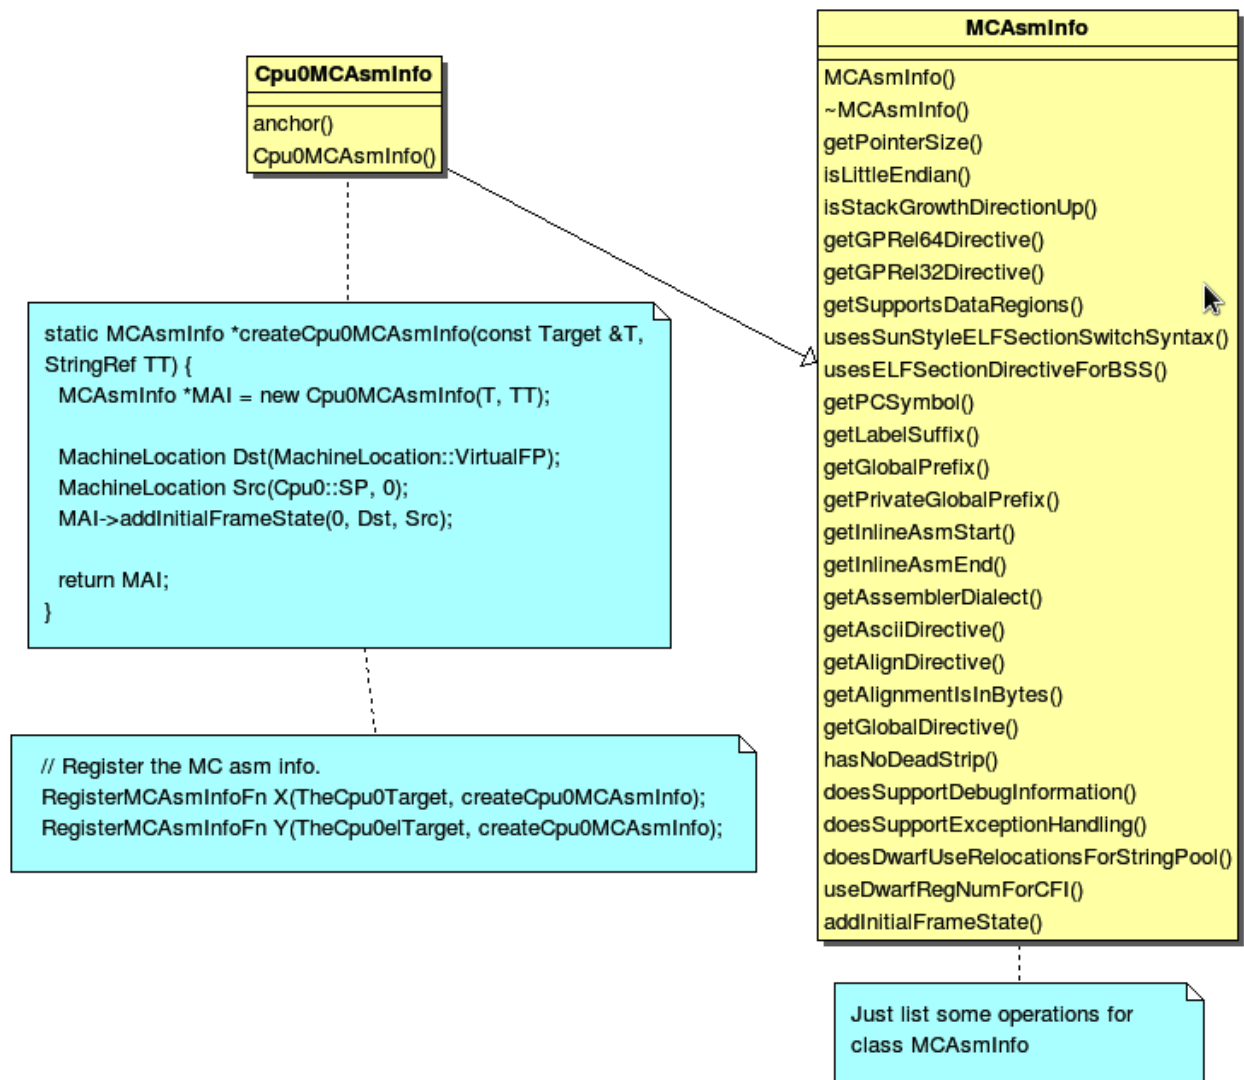
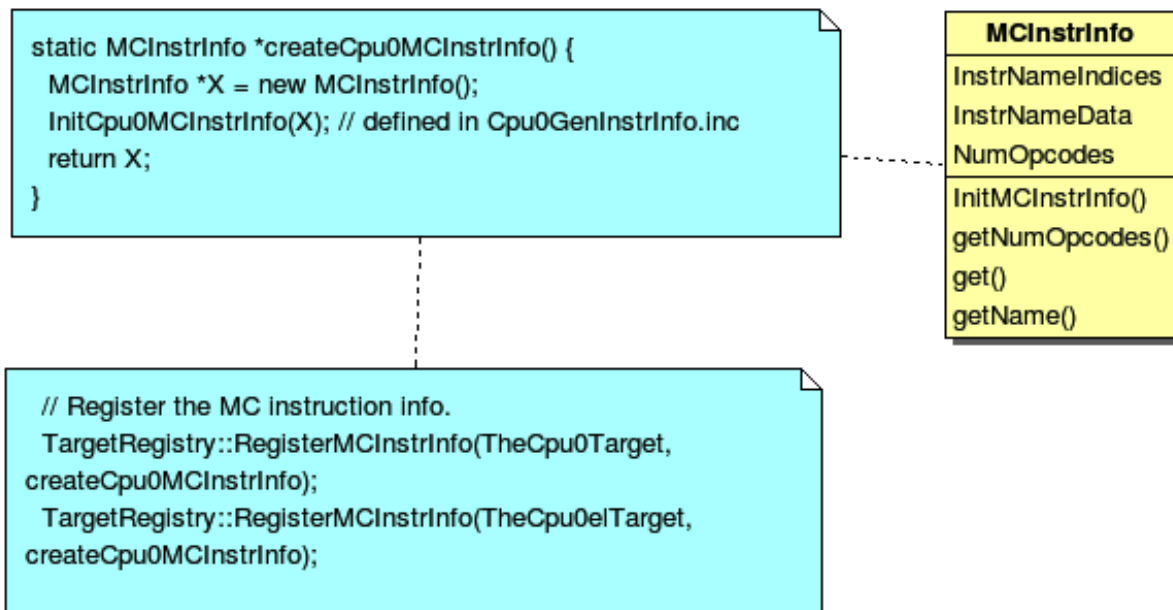
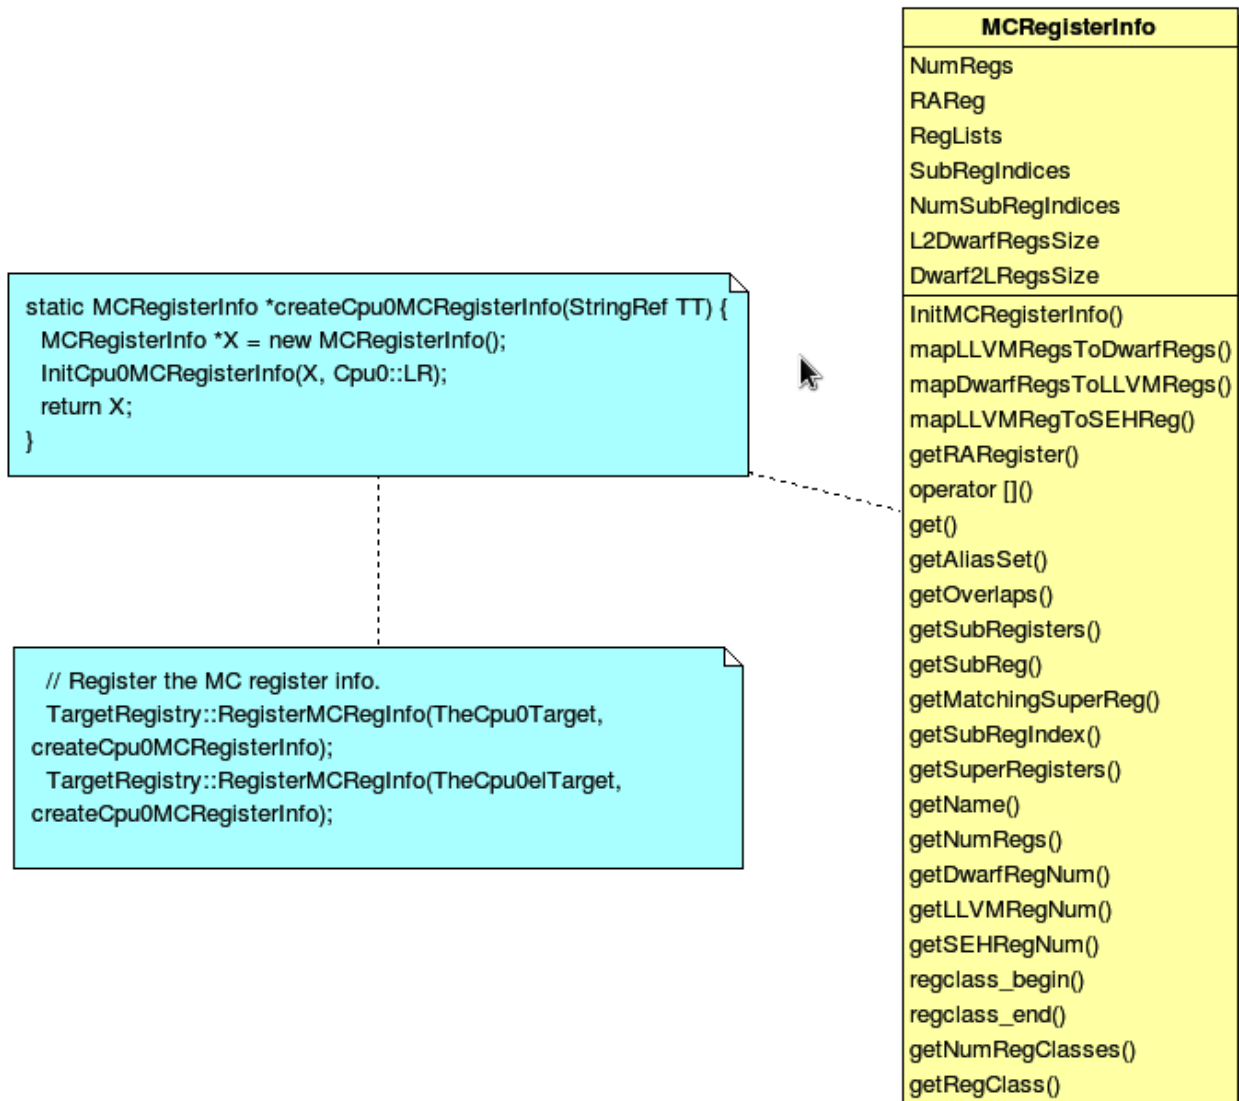

Figure 5.1: Register Cpu0MCAsmInfo
Figure 5.3: Register MCInstrInfo
Figure 5.4: Register MCRegisterInfo
Cpu0MCTargetDesc.cpp do the target registration as mentioned in “section Target Registration”¹ of the last chapter. Drawing the register function and those class it registered in Figure 5.1 to Figure 5.9 for explanation.
In Figure 5.1, registering the object of class Cpu0AsmInfo for target TheCpu0Target and TheCpu0elTarget. TheCpu0Target is for big endian and TheCpu0elTarget is for little endian. Cpu0AsmInfo is derived from MCAsmInfo which is llvm built-in class. Most code is implemented in it’s parent, back end reuse those code by inherit.
In Figure 5.3, instanting MCInstrInfo object X, and initialize it by InitCpu0MCInstrInfo(X). Since InitCpu0MCInstrInfo(X) is defined in Cpu0GenInstrInfo.inc, it will add the information from Cpu0InstrInfo.td we specified. Figure 5.4 is similar to Figure 5.3, but it initialize the register information specified in Cpu0RegisterInfo.td. They share a lot of code with instruction/register td description.
Figure 5.8, instantiating `MCSubtargetInfo` object and initialize with `Cpu0.td` information. Figure 5.9, instantiating `Cpu0InstPrinter` to take care printing function for instructions. Like Figure 5.1 to Figure 5.4, it has been defined in `4/6_2/Cpu0` code for assembly file generated support.